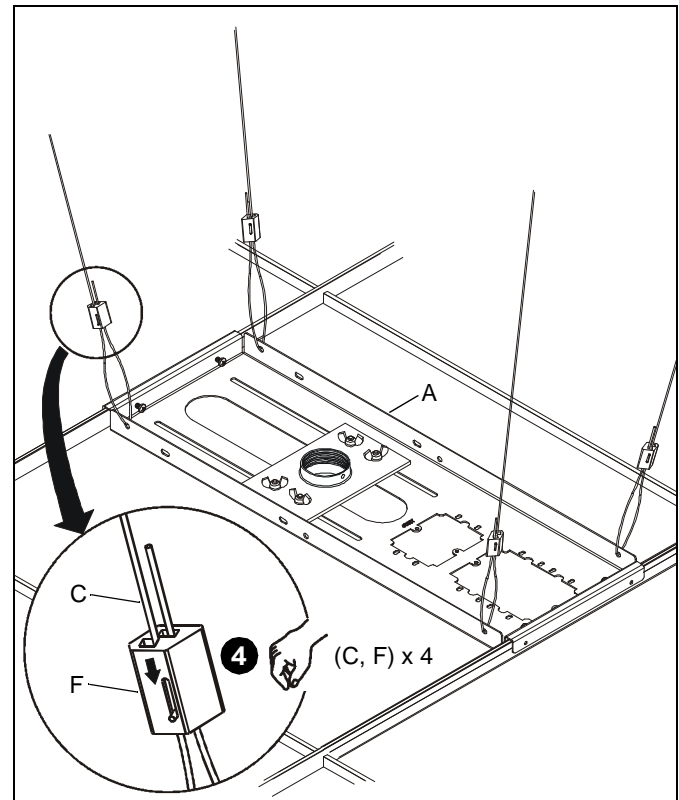

Figure 9
4. Thread each cable (C) completely through cable lock (F), corresponding hole in corner of CMS440 assembly (A), and completely through opposite side of cable lock (F) (See Figure 9). Adjust cable tension until CMS440 assembly (A) is supported *entirely* and *evenly* by all four support cables, but not so tight as to distort ceiling tile framework.